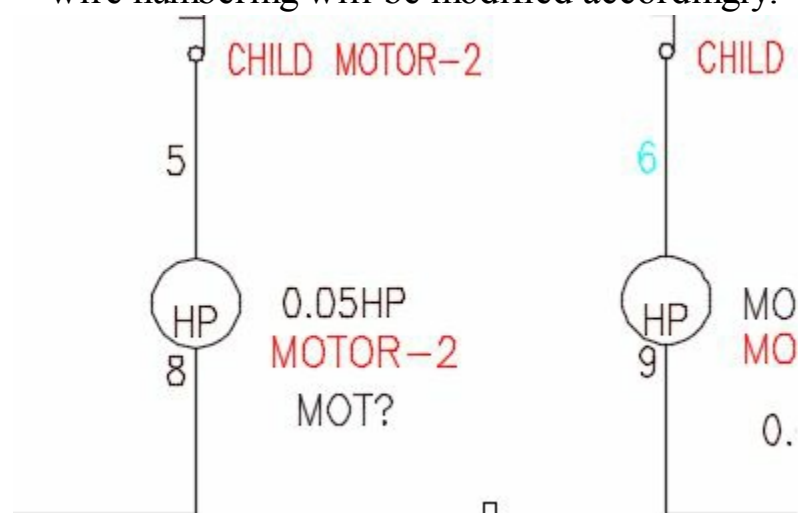

Figure-54. After trimming wire
- On selecting the wire, it will be trimmed between the connecting ends; refer to Figure-54. Also, the wire numbering will be modified accordingly.